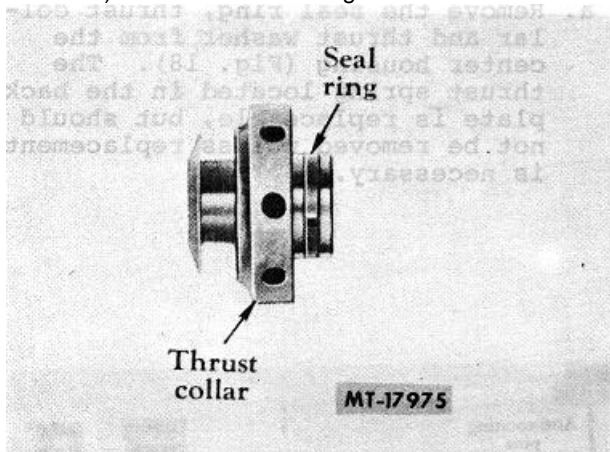
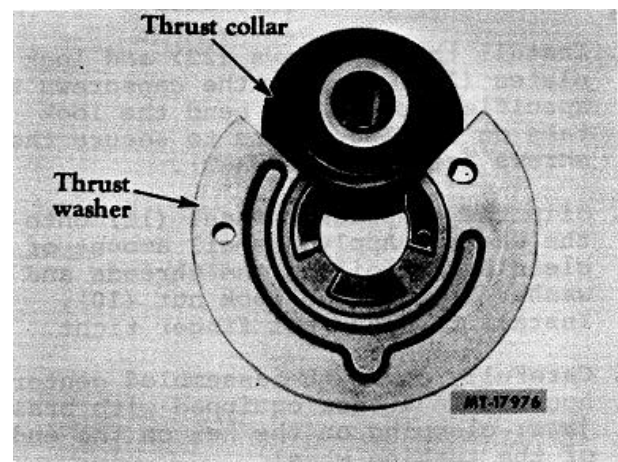

Fig. 20
Fig. 21 Placing Thrust Washer on Collar.
- c. Remove the seal ring from the thrust collar (Fig. 20). Discard the seal ring.
1. If the inboard bearing retainers (18) were removed, use a sharp pick to install new retainers into their grooves in the bore of the center housing. Insure the retainers are properly seated in the grooves.
2. Lubricate the housing bearings (19) with clean engine oil and push them into the bores until they seat against the retainers (18). Install new outer retainers (18) after installing bearings.
3. Install the piston ring (14) into the groove on the shaft (25).
4. Place the shroud (24) over the turbine end of the center housing. Carefully insert the shaft (25) through the shroud and center housing.,
5. Install a new seal ring onto the thrust collar (Fig. 20). Install the thrust washer onto the collar with the flat surface of the washer next to the large diameter of the collar (Fig. 21).